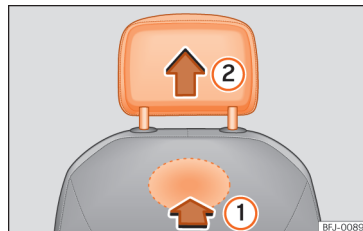

Fig.77 Front head restraint: removal.
- To unlock it, look for the rabbit on the bottom of the backrest and press in the direction of the arrow »» Fig. 77 ①.
- Remove the head restraint in the direction of the arrow ②.